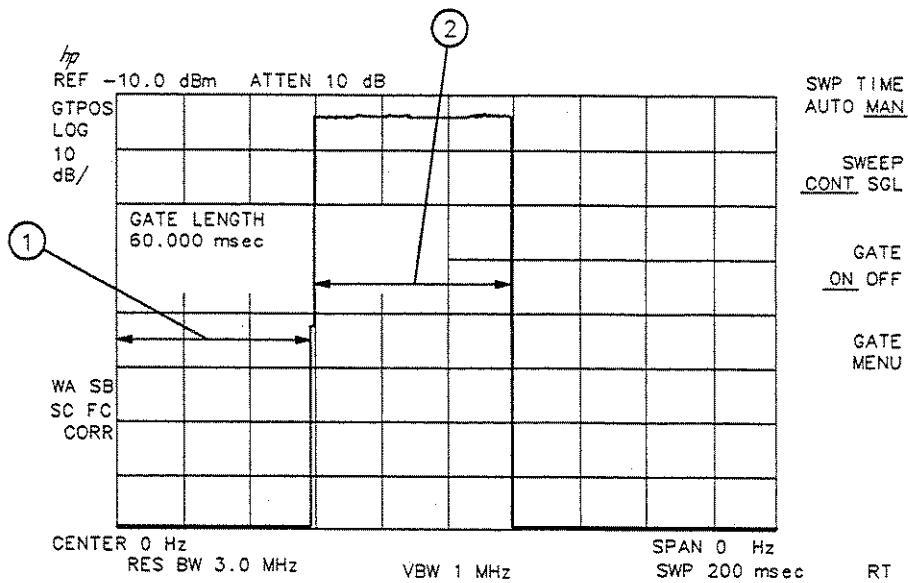

Figure 2-53. Gate On
3. Press **PREV MENU**, **GATE ON OFF** (so that ON is underlined). See Figure 2-53.
Item	Description of Items in Figure 2-53